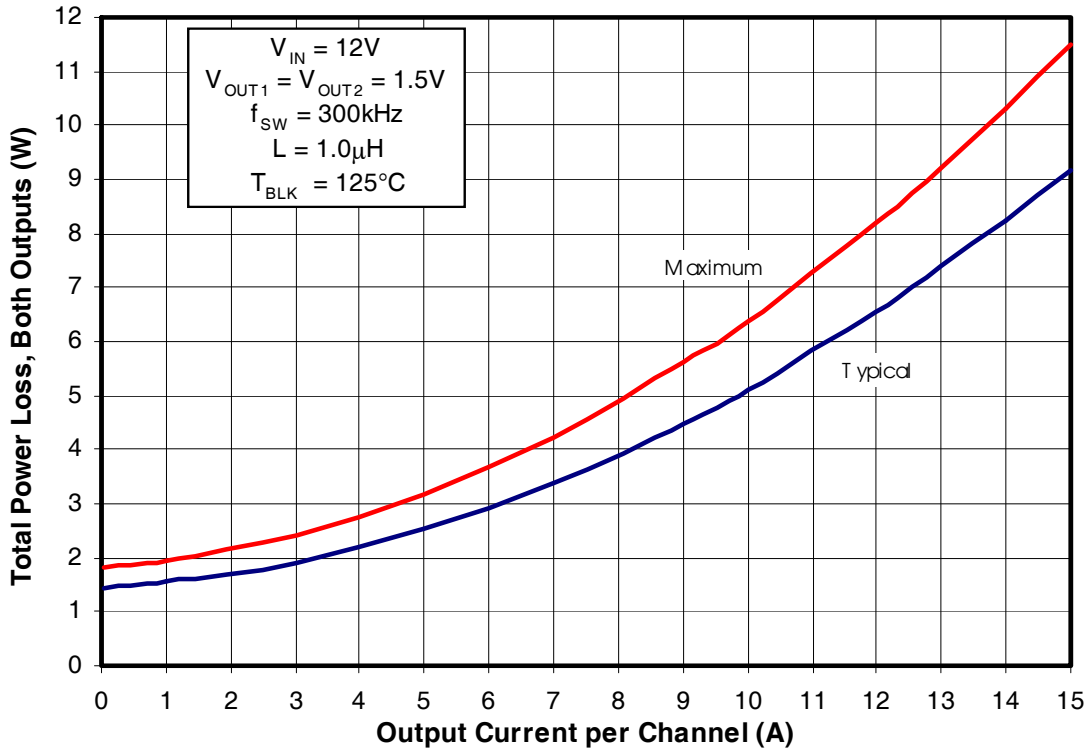
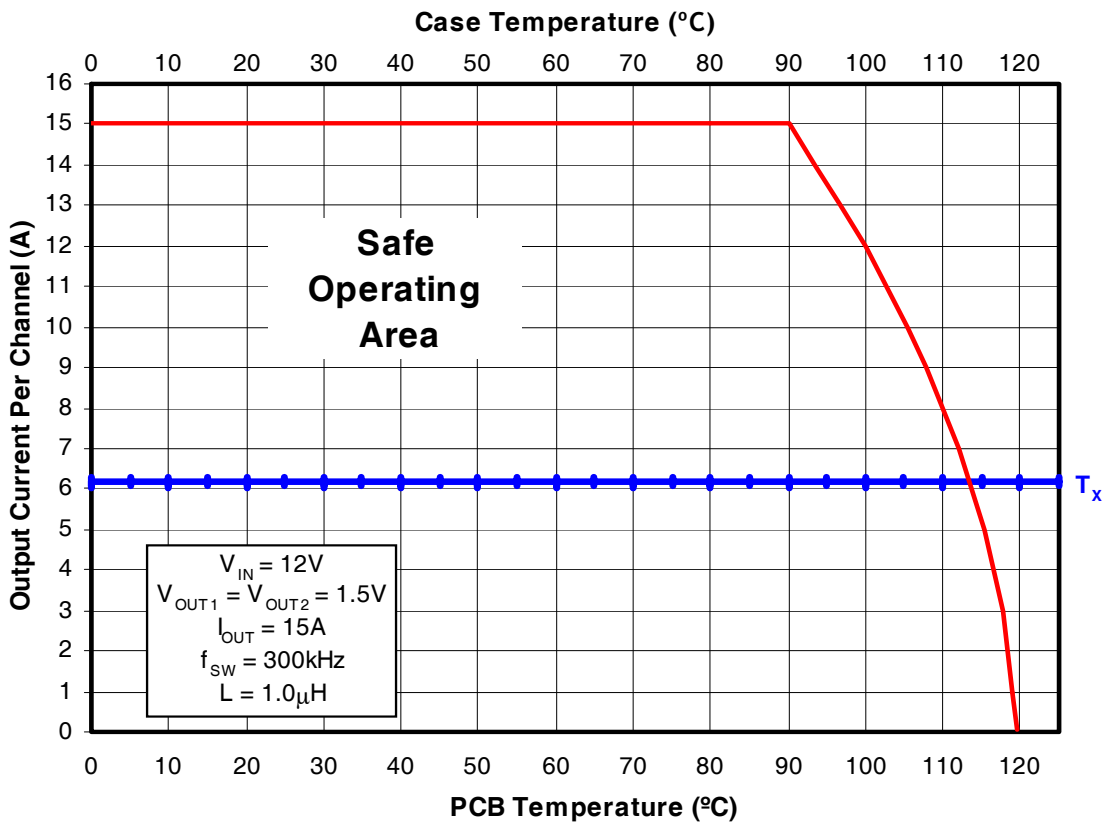
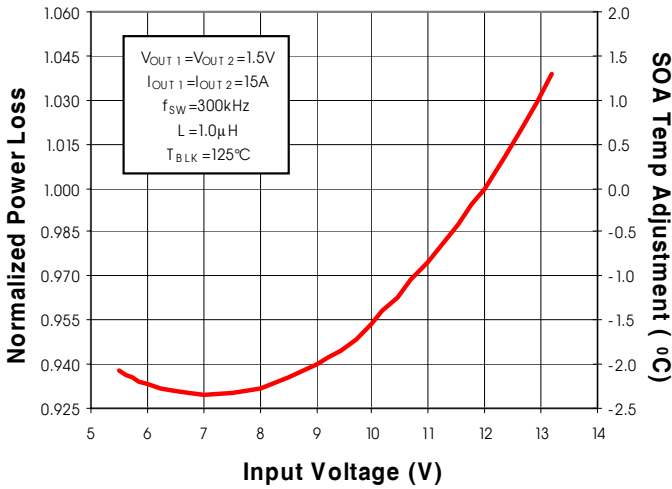

Fig. 2: Power Loss vs. Current
Fig. 3: Safe Operating Area (SOA) vs.  $T_{PCB}$  &  $T_{CASE}$
Fig. 4: Normalized Power Loss vs.  $V_{IN}$
To make adjustments to the power loss curves in Fig. 2, multiply the normalized value obtained from the curves in Figs. 4, 5, 6 or 7 by the value indicated on the power loss curve in Fig. 2. Remember that the power loss in Fig 2. is the power loss for 2 outputs operating with the same output voltage. If differing output voltages are used the initial power loss for each channel needs to be divided by 2. Then if multiple adjustments are required, multiply all of the normalized values together, then multiply that product by the value indicated on the power loss curve in Fig. 2. The resulting product is the final power loss based on all factors. See example no. 1.
To make adjustments to the SOA curve in Fig. 3, determine your maximum PCB Temp & Case Temp at the maximum operating current of each iP1202. Then, add the correction temperature from the normalized curves in Figs. 4, 5, 6 or 7 to the  $T_x$  axis intercept (see procedure no. 2 above) in Fig. 3. When multiple adjustments are required, add all of the temperatures together, then add the sum to the  $T_x$  axis intercept in Fig. 3. See example no. 2.
- Output1 (Fig. 2) Maximum power loss =  $W 8.25/2 = 4.125W$
(Fig. 4) Normalized power loss for input voltage  $\approx 0.93$
- Output2 (Fig. 2) Maximum power loss =  $6.4W / 2 = 3.2W$
- (Fig. 4) Normalized power loss for input voltage  $\approx 0.93$
- Output1 (Fig. 4) Normalized SOA Temperature for input voltage  $\approx -2.3^{\circ}C$
- Output2 (Fig. 4) Normalized SOA Temperature for input voltage  $\approx -2.3^{\circ}C$